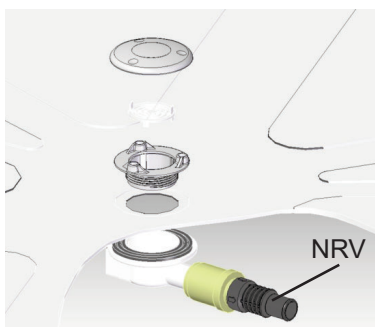

Fig. 3 Small Gulley IC Installation
**NOTE.** Ensure that the rubber washer is fitted to the underside with the ribbed surface facing upwards (Fig 3).